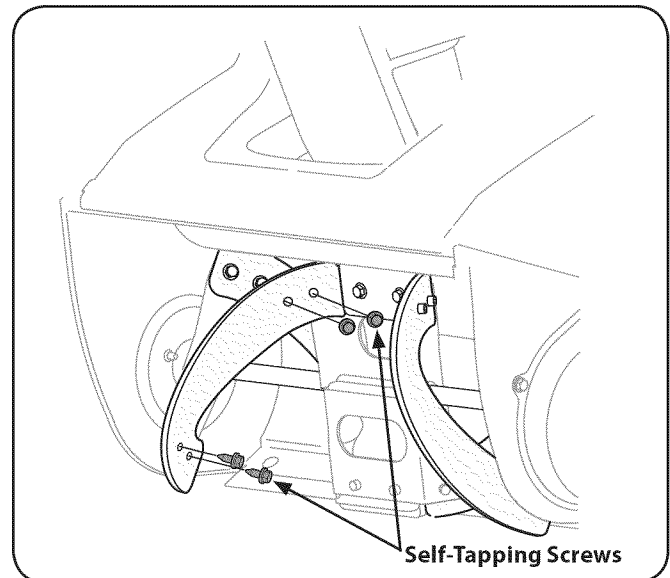

Figure 8-3
1. Remove the existing rubber paddles by unthreading the self-tapping screws which secure them to the auger. See Fig. 8-3.